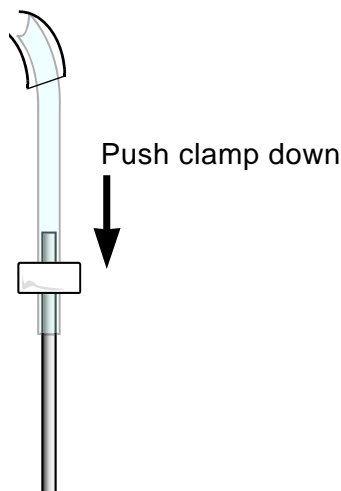

Figure 5-10. Tubing Clamp Positioning
- Now, push the tubing clamp down until it is positioned as shown in Figure 5-10.